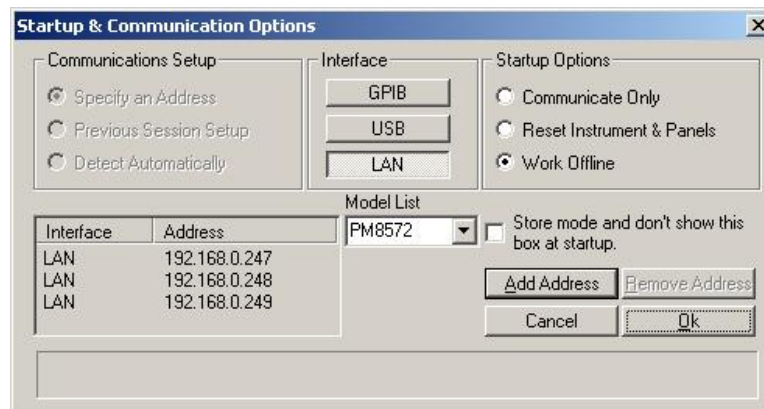

Figure 3-31: Assigning Master and Slave Addresses
6. Select the LAN Interface and add the master and slave addresses as shown in Figure 3-31.